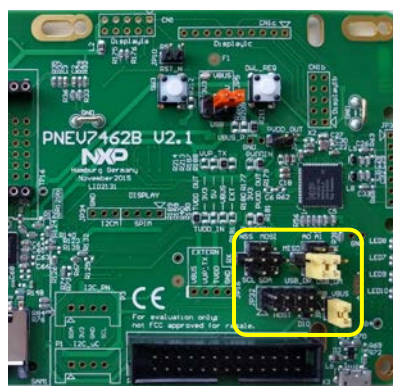

Fig 18. Host Interface selection – USB mode
The antenna connection uses the standard tuning circuit Fig 10. The EMC filter is typically a second order low pass filter as shown in Fig 18, and contains an inductor (L_0) and a capacitor (C_0). The cut off frequency defines the overall detuning behavior as well as the transfer function of the antenna circuit. For symmetrical (DPC) tuning, EMC filter is designed with a cut off frequency of $f_{EMC} = 14,8 \text{ MHz}$, and the antenna impedance is tuned to $Z = 20\Omega$.
The yellow marked jumpers (Fig 18) needs to be set for using the I2C host interface of the chip with LPCXpresso expansion board. This will connect the I2C SCL of the PN7462AU to the I/O P0 (28) and also the I2C SDA of the PN7462AU to the I/O P0(27) of the LPCXpresso board.
The antenna connection uses the standard tuning circuit Fig 10. The EMC filter is typically a second order low pass filter as shown in Fig 18, and contains an inductor (L_0) and a capacitor (C_0). The cut off frequency defines the overall detuning behavior as well as the transfer function of the antenna circuit. For symmetrical (DPC) tuning, EMC filter is designed with a cut off frequency of $f_{EMC} = 14,8$ MHz, and the antenna impedance is tuned to $Z = 20\Omega$.